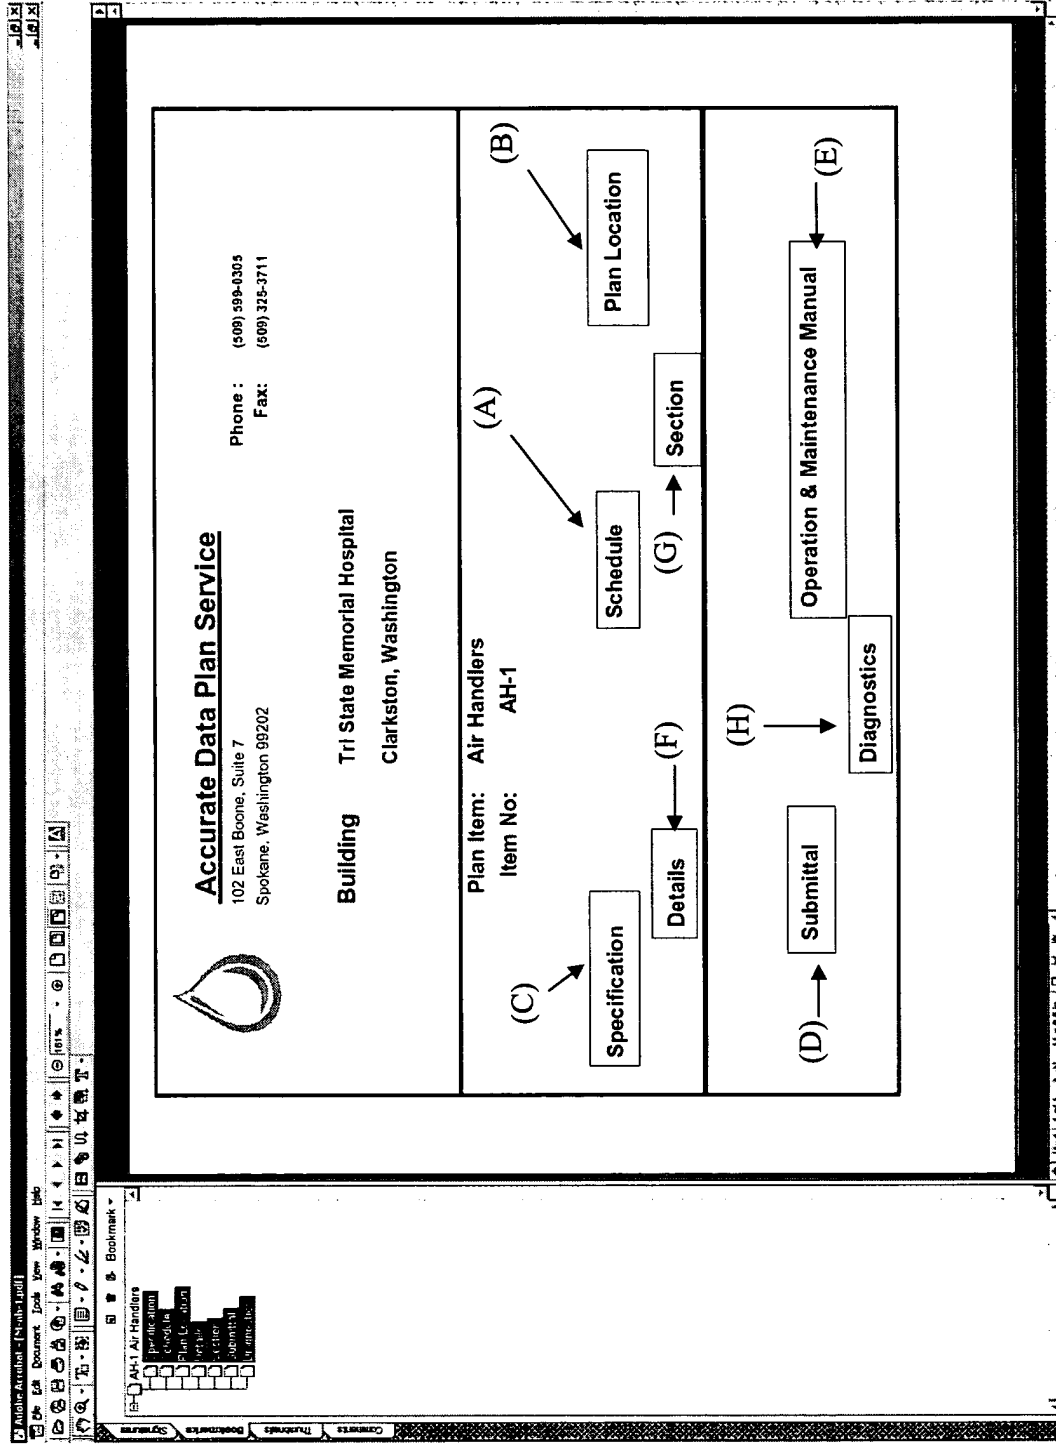

Fig. 4
Equipment schedule representation for components to be installed as accessed from GOI link (A) shown in Fig. 4.
Location drawings (plan and section representations) for items to be installed as accessed from GOI link (B)&(H) shown in Fig. 4.
Specifications of the components as accessed from GOI link (C) shown in Fig. 4.
Catalog representations of the actual items to be installed and the specific location as accessed from GOI link (D) shown in Fig. 4.
Maintenance & Operation Manual listing all of the parts and the basic trouble shooting guide of the item as accessed from GOI link (E) shown in Fig. 4.